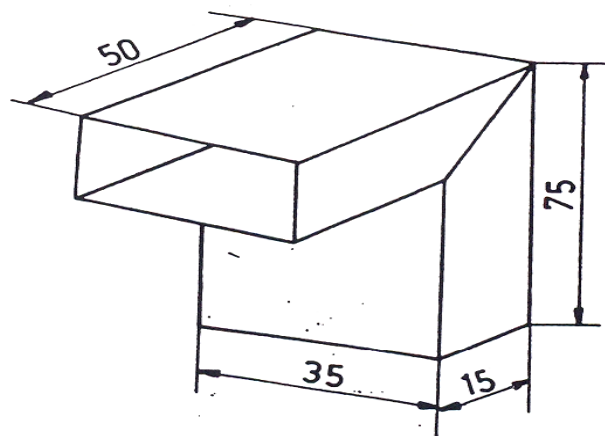

Fig. 1
3. Draw the development of Duct shown in Fig. 1.